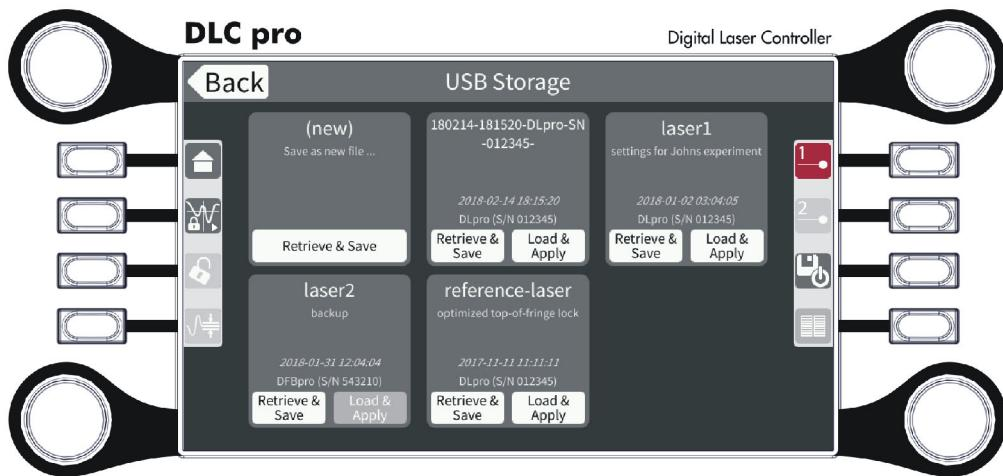

Figure 45 Configuration Manager, USB Storage window
- A section (USB Storage, see Figure 45) for selecting configurations from a USB flash drive connected to the USB connector on the DLC pro front panel.